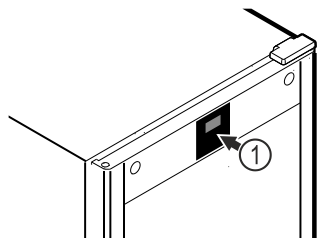

Fig. 52 Example illustration
The thermometer is calibrated at the factory (offset of +6 Kelvin). If the interior temperature differs from the temperature display Fig. 52 (1), you can calibrate the thermometer. Setting range: +/- 10 Kelvin in 1 Kelvin increments.